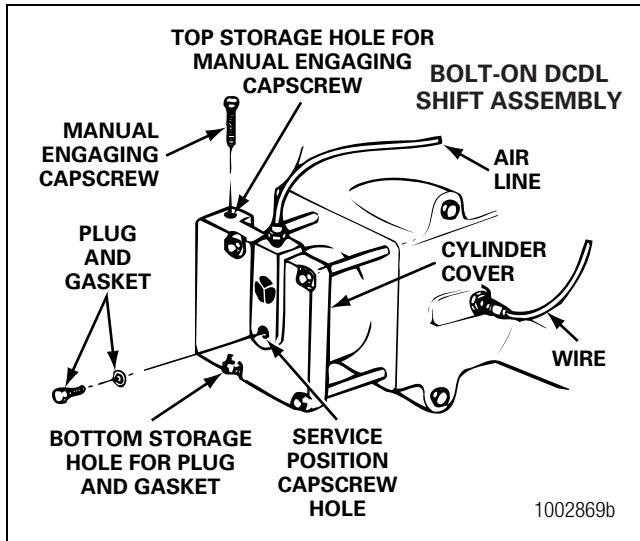
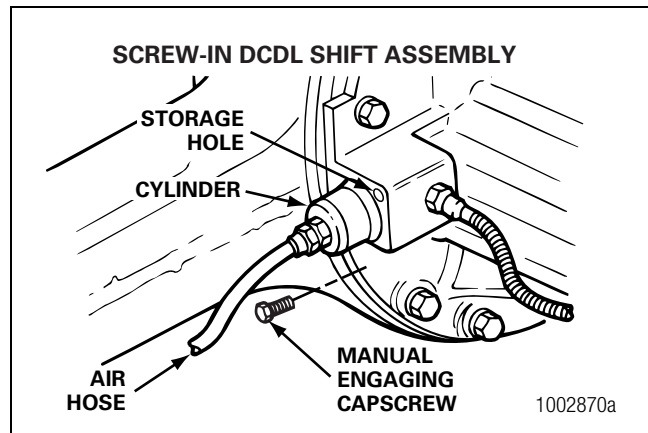

Figure 6.19
Figure 6.21
1. Install the washer and plug into the hole for the sensor switch. Tighten the plug to 45-55 lb-ft (60-74 N•m). Figure 6.19.
9. Install the manual engaging capscrew into the DCDL storage hole in the bolt-on or the screw-in DCDL assembly. Figure 6.19 and Figure 6.21. The sealing gasket must be under the head of the capscrew.
Install the short plug and gasket into the service position hole in the center of the DCDL. Figure 6.19.
- B. On a screw-in DCDL shift assembly, install the short screw or plug into the storage hole located in the top of the screw-in DCDL shift assembly. Figure 6.21.